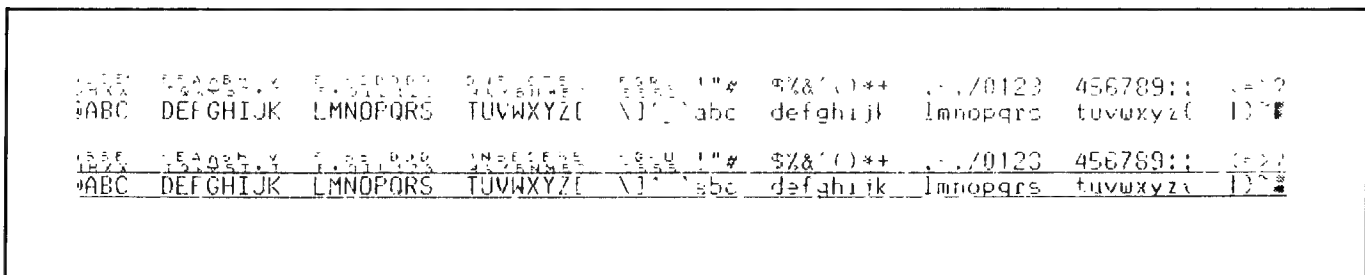

Figure 6-3 2621B Printer Self Test
3. A test pattern (figure 6-3 or 6-4) is printed on paper or an error message may be displayed on the screen. Table 6-1 gives the meaning of the error message and what action to take.